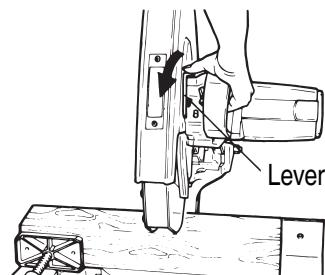

Fig. 7
5. Ink line matching operation (Fig. 7)
For cutting along a ink line marked on the workpiece, operate the lever located on the handle side of the saw cover as illustrated in Fig. 7 to lift the lower guard and align the saw blade with the ink line before starting cutting operation.